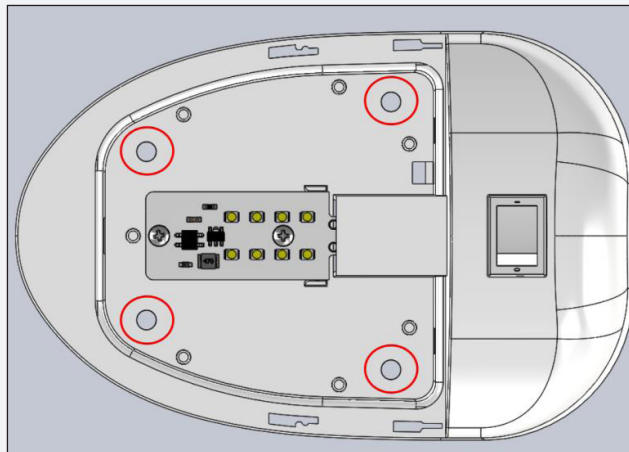

Figure 2: Mountin Hole Locations
1. With the light positioned in its desired installation location, use the provided screws to mount the light to the mounting surface. If necessary, drill 1/8" pilot holes before securely fastening (Figure 2).